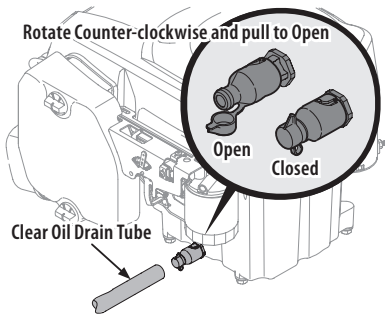

Fig. 29
4. Open the protective cap on the end of the oil drain valve to expose the drain port (Fig. 29 on page 25).